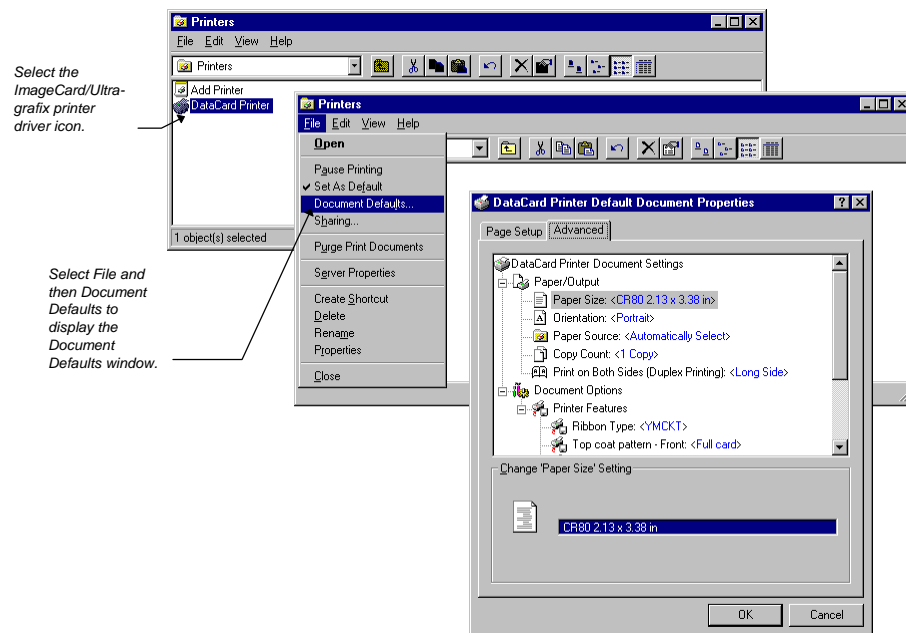

Figure 3-4 Display the Defaults Document Properties window (Windows NT only)
3. Click once on the printer driver icon. The printer driver icon has the name chosen during driver installation. Select Document Defaults from the File menu (see Figure 3-4). The Default Document Properties window appears. Most of the items you will want to use are in the Advanced tab.